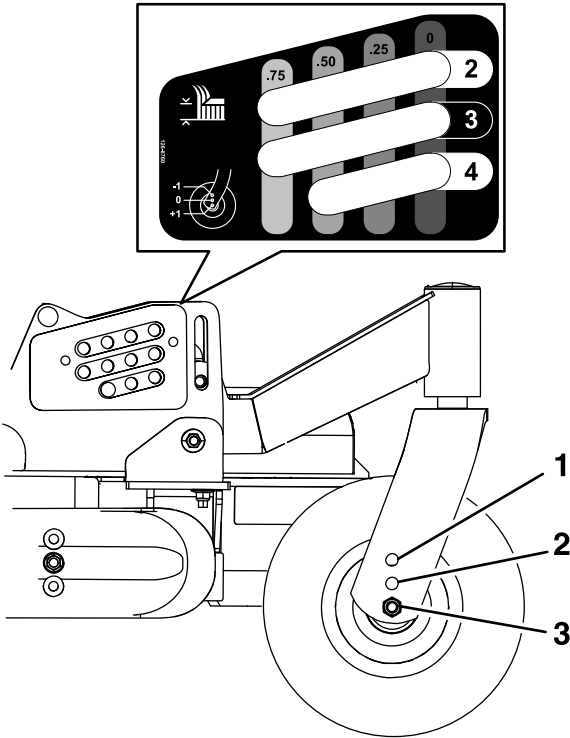

Figure 29
- B. Adjust the front and rear gauge wheels to the appropriate hole location (see the chart below and Figure 29) and install the mounting hardware.